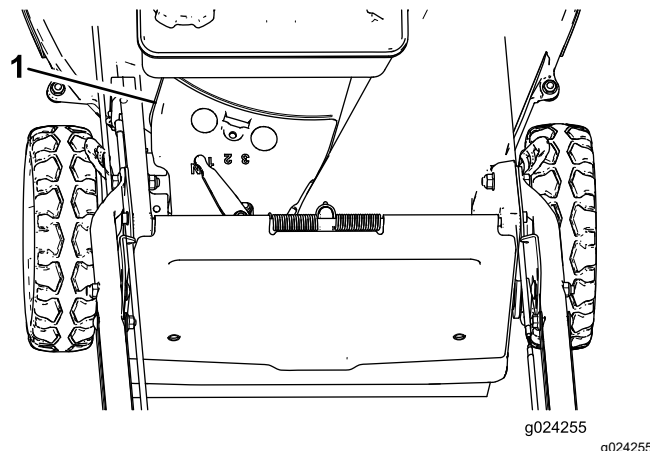

Figure 32
3. Remove the belt cover (Figure 32).